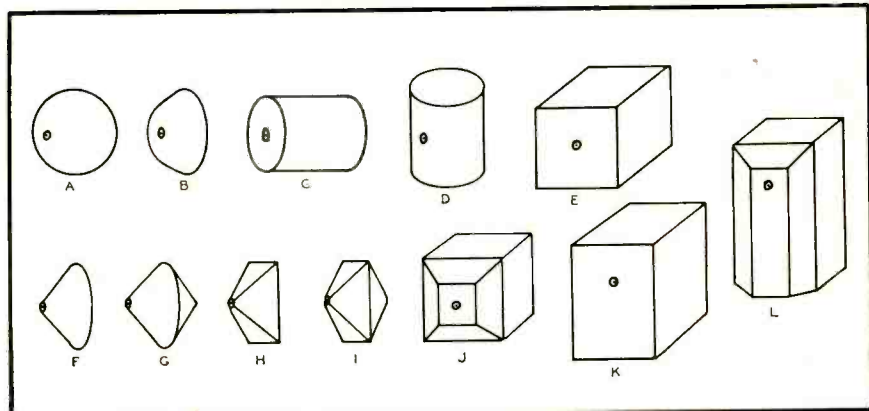
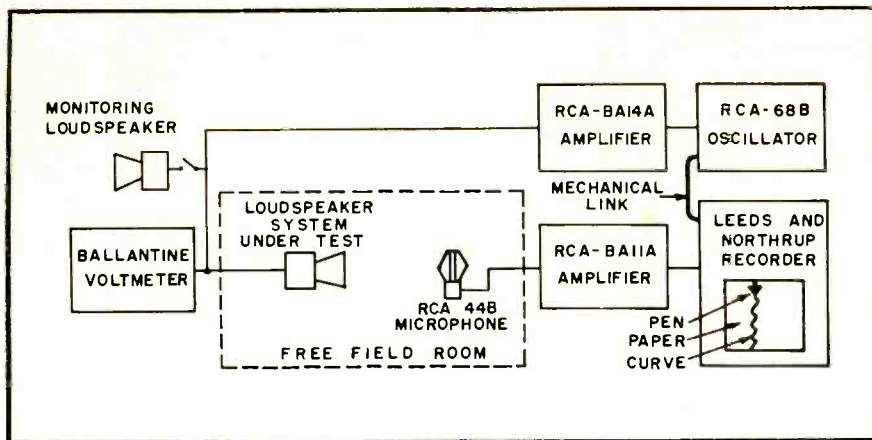

Fig. 2. Direct-radiator loudspeaker mechanism enclosures. The small circle with the dot in the center represents the speaker unit.
Fig. 3. Schematic diagram of the apparatus for obtaining the response-frequency characteristics of loudspeakers.
The enclosures used in these experiments are depicted in Fig. 2. The sheet metal sphere shown at (A) is 2 ft. in diameter. The loudspeaker mechanism is mounted with the cone approximately flush with the surface. The sheet metal hemisphere shown at (B) is 2 ft. in diameter with the back closed by a flat board of hard wood. The loudspeaker mechanism is mounted upon the zenith of the hemisphere with the cone of the loudspeaker mechanism approximately flush with the surface. The sheet metal cylinder shown at (C) is 2 ft. in diameter and 2 ft. in length. The ends of the cylinder were closed by plywood boards of hard wood. The loudspeaker mechanism is mounted in the center of one end with the cone of the loudspeaker mechanism mounted flush with the surface. The cylinder shown at (D) is of the same size as that of (C). In (D) the cone of the loudspeaker mechanism is mounted approximately flush upon the cylindrical surface midway between the ends. The sides of the wood cube shown at (E) are 2 ft. in length. The loudspeaker mechanism is mounted in the center of one face with the cone flush with the surface. The base of the sheet metal cone shown at (F) is 2 ft. in diameter. The height of the cone is 1 ft. The base of the cone is closed by
The small loudspeaker mechanism of Fig. 1 was mounted in the enclosures shown in Fig. 2. In obtaining true diffraction effects it is important that reflection effects produced by room in which the response-frequency characteristic is obtained be reduced to a negligible minimum. Therefore, all the response-frequency characteristics depicted in this paper were obtained in the free field room^{2, 3} of the Acoustical Laboratory of the RCA Laboratories. A schematic diagram of the apparatus used for obtaining the response-frequency characteristics, along with detailed designations of the components are shown in Fig. 3. The complete recording system—including the RCA-44B velocity microphone, BA1A amplifier, and Leeds and Northrup Speedomax recorder—was calibrated by the free
Figs. 6 to 17. Response-frequency characteristic of a small direct-radiator loudspeaker mechanism mounted in the enclosures of Fig. 2.